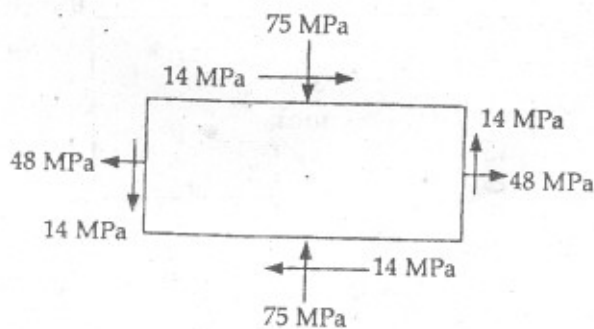

Fig. 13
10. (a) For the stress condition on an element as shown in Fig. 13 determine the principal planes and stresses. Also determine the maximum shear stress and the planes on which they act. [9]